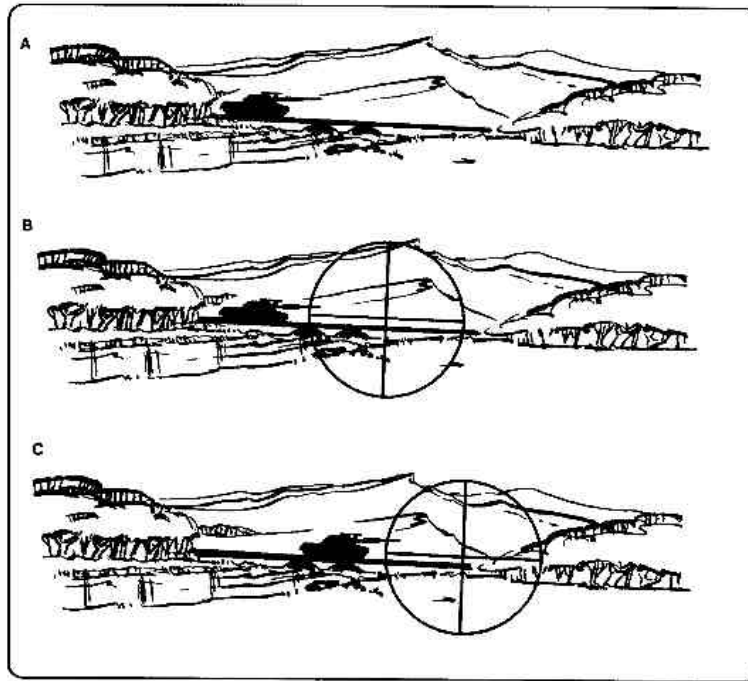

Figure 3-19. Target determination.
a. A moving target may be able to find a covered position if the gunner can judge whether the missile will successfully hit the target after launch. The tracker sight helps make this determination. The gunner lines up the tracker sight directly in front of the target. If there are no obstructions or covered areas along the expected path of the target and the target is moving 35 kmph or less, the gunner can successfully launch and destroy it. (See A, Figure 3-19.)
b. The gunner places the cross hairs center of mass and fires--the target will not be able to reach the protection of the hill in time. (See B, Figure 3-19.) If the gunner does fire - the target will reach the protection of the hill before the missile hits. (See C, Figure 3-19.)